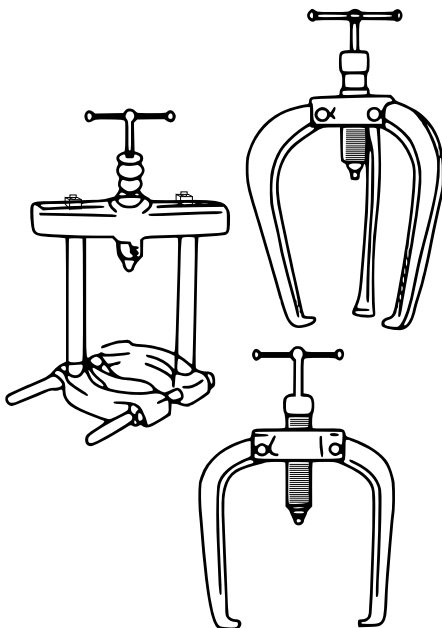
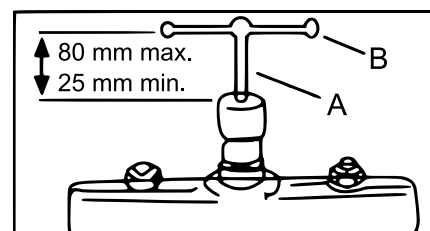

Figure 1
Figure 2
2. Fix the appropriate puller (see fig. 1) and adjust the T handle (fig. 2, A) so that the puller (fig. 2, B) is approximately 80 mm above the top of the ram (see fig. 2).
5. Do not screw the T handle in further than 25 mm from the end of the ram (see fig. 2). Should the work piece need to be moved additionally, unscrew the T handle to 80 mm from the end of the ram. Screw then ram body down so that the centre adaptor again contacts the shaft. Then continue to pull the work piece off the shaft.